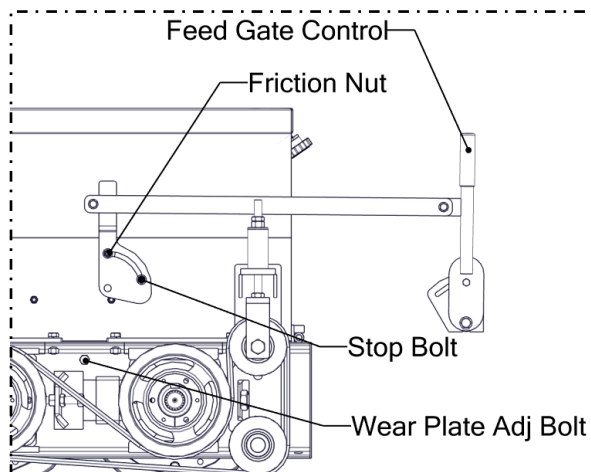
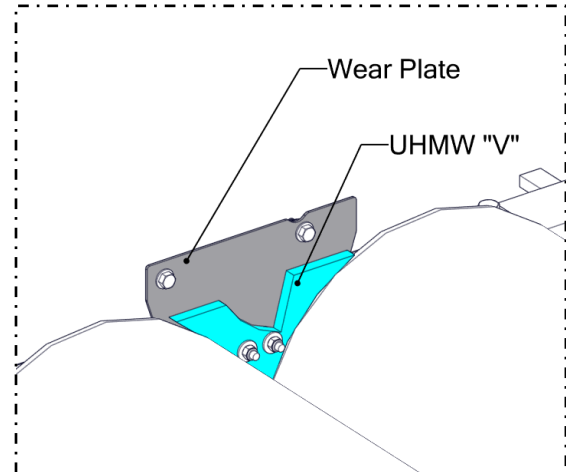

Figure 4.5
Figure 4.6
Set the friction knob (Figure 4.5) so that it supports the weight of the feed gate and yet allows the gate to be opened and closed by hand. Note that the setting of the feed gate helps to spread the feeding of grain evenly across the face of the roll. The feed gate also serves to limit the overall flow of grain through the rolls.
Wear plates (Figure 4.6) are used to keep grain from escaping around the ends of the rolls. The positioning of the wear plates can be seen when the feed gate is fully open. A noise can be heard if the wear plates are contacting the rolls. To remedy this, loosen the jam nut and wear plate adjustment bolt (Figure 4.5) until the noise stops. Alternately, if the gap is excessive, turn the bolt into the plate until the plate touches the roll, then back off until the noise stops. Tighten the jam nuts when the desired setting is obtained. Be sure to maintain the position of 'UHMW "V"' (Figure 4.6) to cover chamfer at ends of rolls. Replace as necessary.
2. Ensure that the feed gate is closed (Figure 4.5) before starting the mill. Even a few grains will keep the rolls from turning. Start the rolls turning at minimum RPM and slowly increase the RPM speed to 540.
6. When finishing the rolling process, always clean the top hopper out completely, and close the feed gate. Note that the feed gate stop bolt (Figure 4.5) can be used to set a consistent opening point. This maintains product consistency each time rolling is performed.